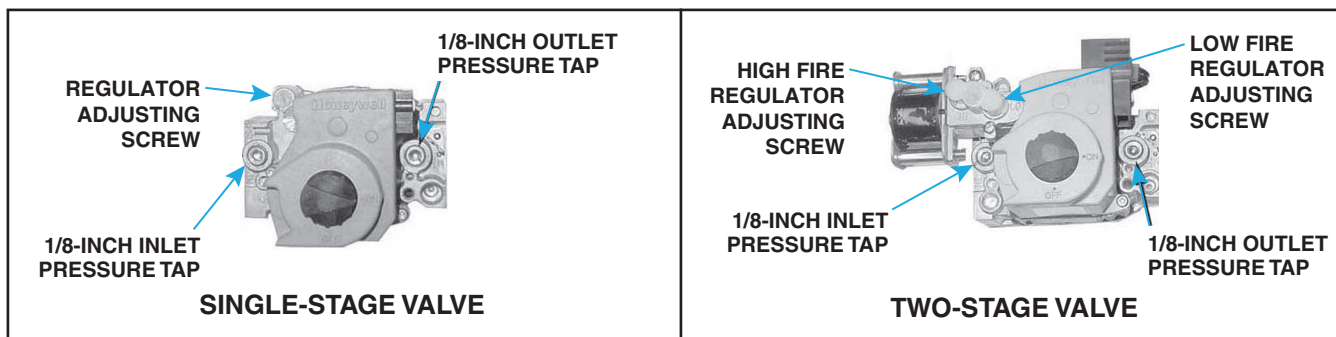

Figure 34. Combination Gas Valve Test Connections
1. Locate 1/8-inch FPT INLET pressure tap on combination gas valve (see Figure 34).
2. With field-installed manual valve closed to prevent flow to gas valve, connect manometer to 1/8-inch FPT INLET pressure tap (see Figure 34).